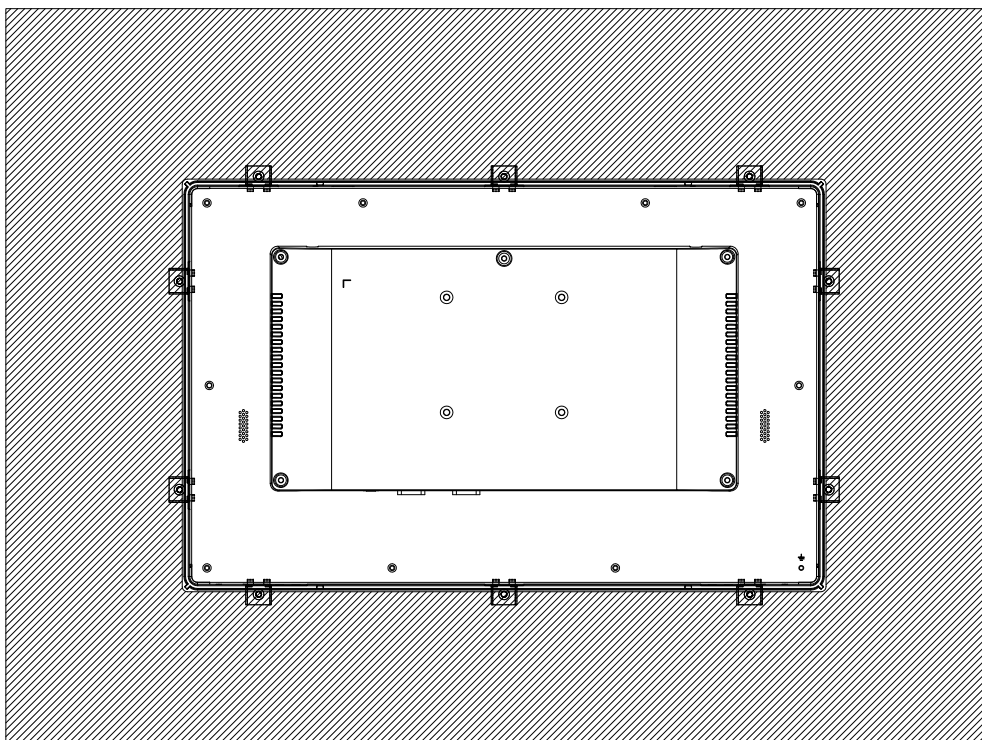

**Figure 2.9 Hook Bracket Location**
3. Insert the hook brackets into the mount holes in a downwards direction (as shown in Figure 2.9). Then hang the panel PC.